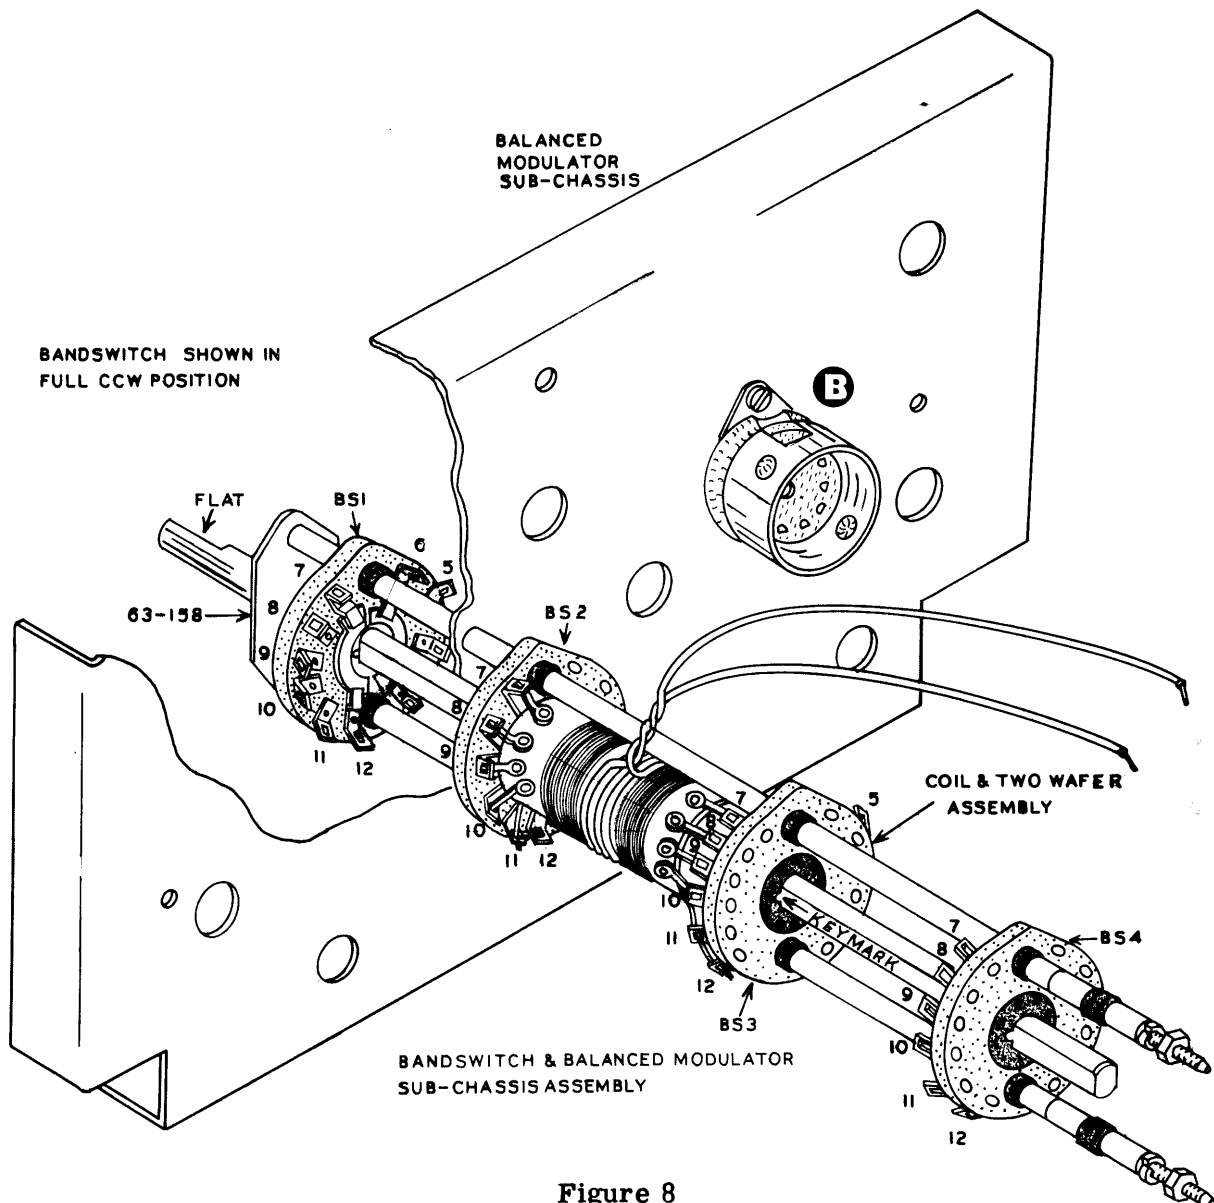

Figure 8
**CAUTION:** Carefully inspect the bandswitch 63-158 and note the position of the key marks on the wafer rotors. Both should be on the same side of the switch shaft. If not, during disassembly, remove the front deck and replace with the key mark in line with the rear deck key mark. Check the detailed bandswitch drawing in Figure 8 which shows the switch in full CCW position. Note the proper relation between the shaft flat and the wafer key marks and contact arrangement.
- (✓) Disassemble band switch 63-158 and reassemble to the sub-chassis as shown in Figure 8. Insert the coil and two wafer assembly on the band switch as shown placing the wafer with lugs at BS3-2 and BS3-5 toward the rear. During reassembly, use care to observe proper orientation of the wafers and index plate per the detailed drawing. Make sure a fiber washer is placed between the ceramic wafer and the metal spacer.